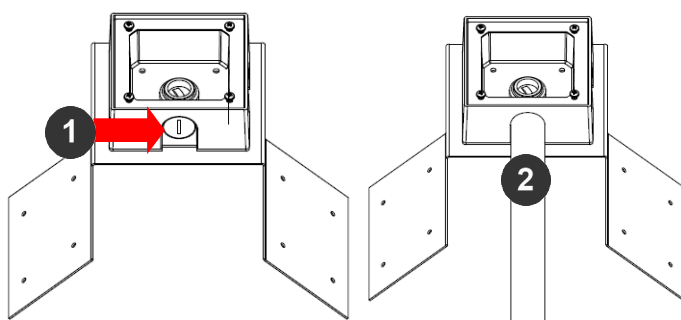

Figure 16: Attach conduit to SV-JBA junction box adapter
3. Attach the SV-JBA (Junction Box Adapter) to the Corner Mount Adapter (Figure 16).
4. Remove the conduit plug on the junction box adapter and connect $\frac{3}{4}$ " NPT conduit to the junction box adapter (Figure 16).